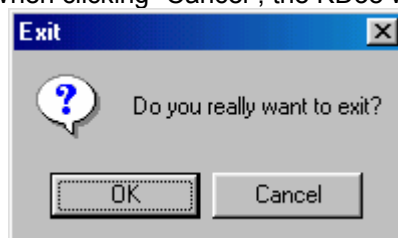

Figure 4-18 Exit Window
- 2) Select “File” - “Exit” of the KD38. Since Figure 4-18 is open when selecting the “Exit” menu, click “OK”. When clicking “Cancel”, the KD38 will not be exited.